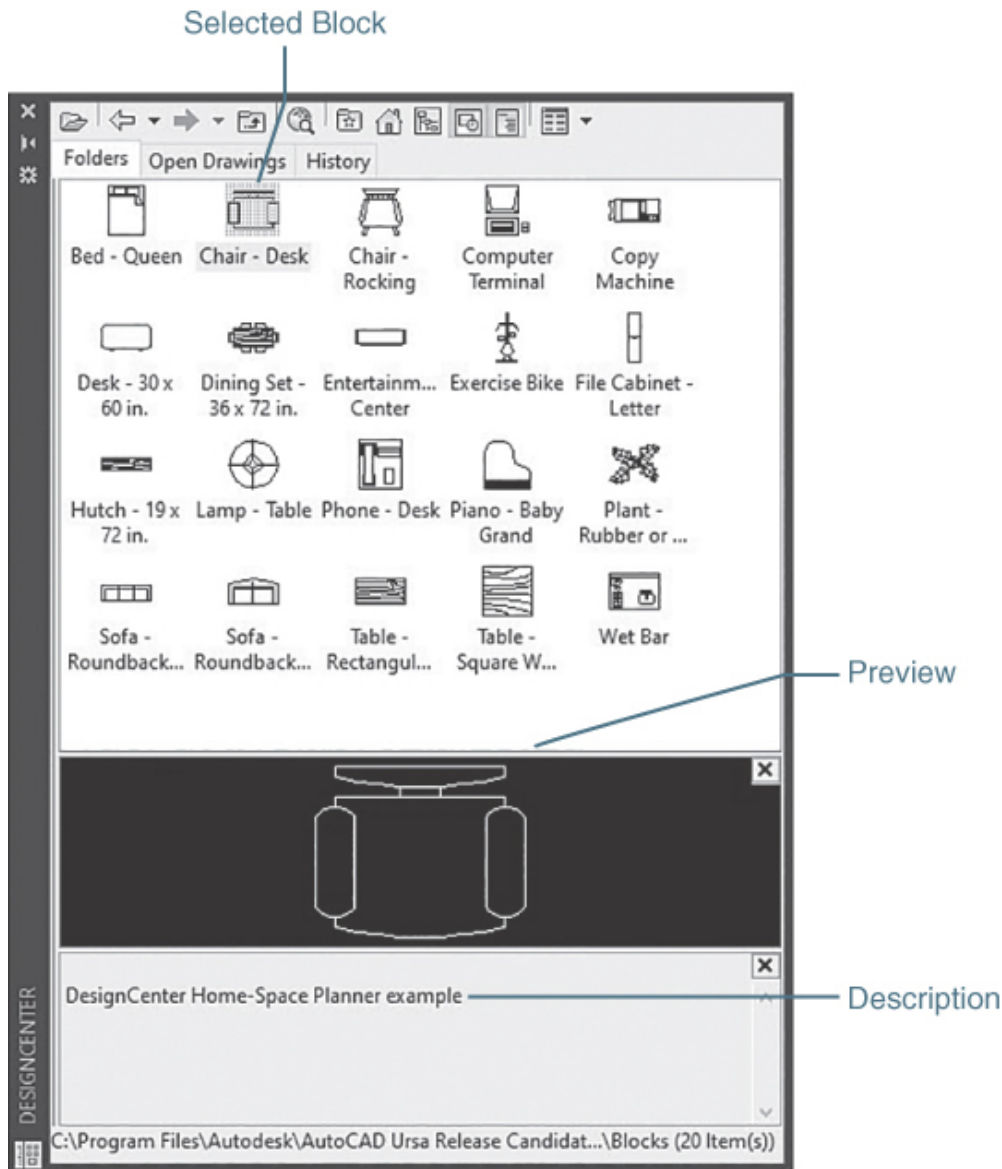

Figure 16-57
The content area on the right side of the window displays the contents of the drawing or the named object collection currently selected in the tree view on the left. When a block is selected, it is possible to display a preview and a description as shown in Figure 16-57.
- 4 Select the **Blocks** icon so you can see the blocks defined in the drawing in the content area on the right as shown in Figure 16-57.